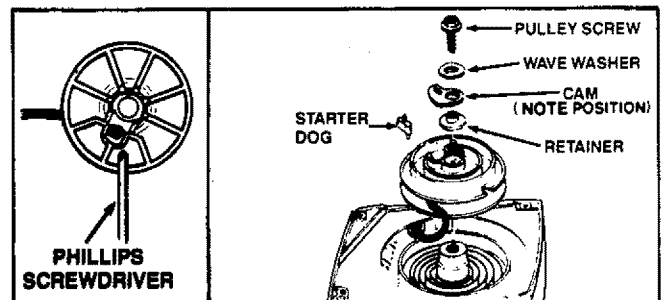

Figure 38
8. Feed the rope through the round starter hole in the the fan housing. Figure 38.
9. Guide rope inside pulley, then through topside pulley hole by pushing the rope from the underside hole with a small round object, such as a Phillips screwdriver. See inset. Figure 38.
NOTE: If you remove the pulley screw from the pulley make sure the starter dog, retainer, cam and wave washer are positioned and installed properly as shown in Figure 38.
14. Make sure the cam is installed on the starter dog in the direction shown in Figure 38. Also make sure the wave washer is seated around the top outer edge of the retainer and not caught between the top of the retainer and the pulley screw.